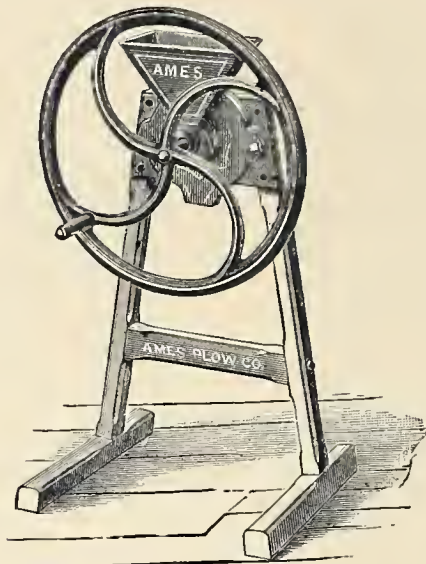

Fig. 413. — Hand Corn-Mill.
*The Hand Corn-Mill*, represented by *Fig. 413*, for grinding grain, coffee, spices, etc., is made in three sizes, operating by hand, and grinding from one to two bushels per hour. Large numbers of these mills are sold.